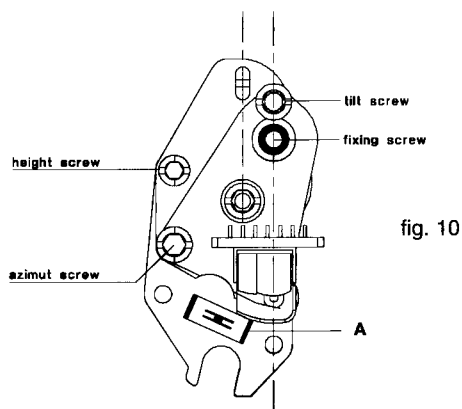

fig. 10
Remove the fixing spring (A) (fig. 10)